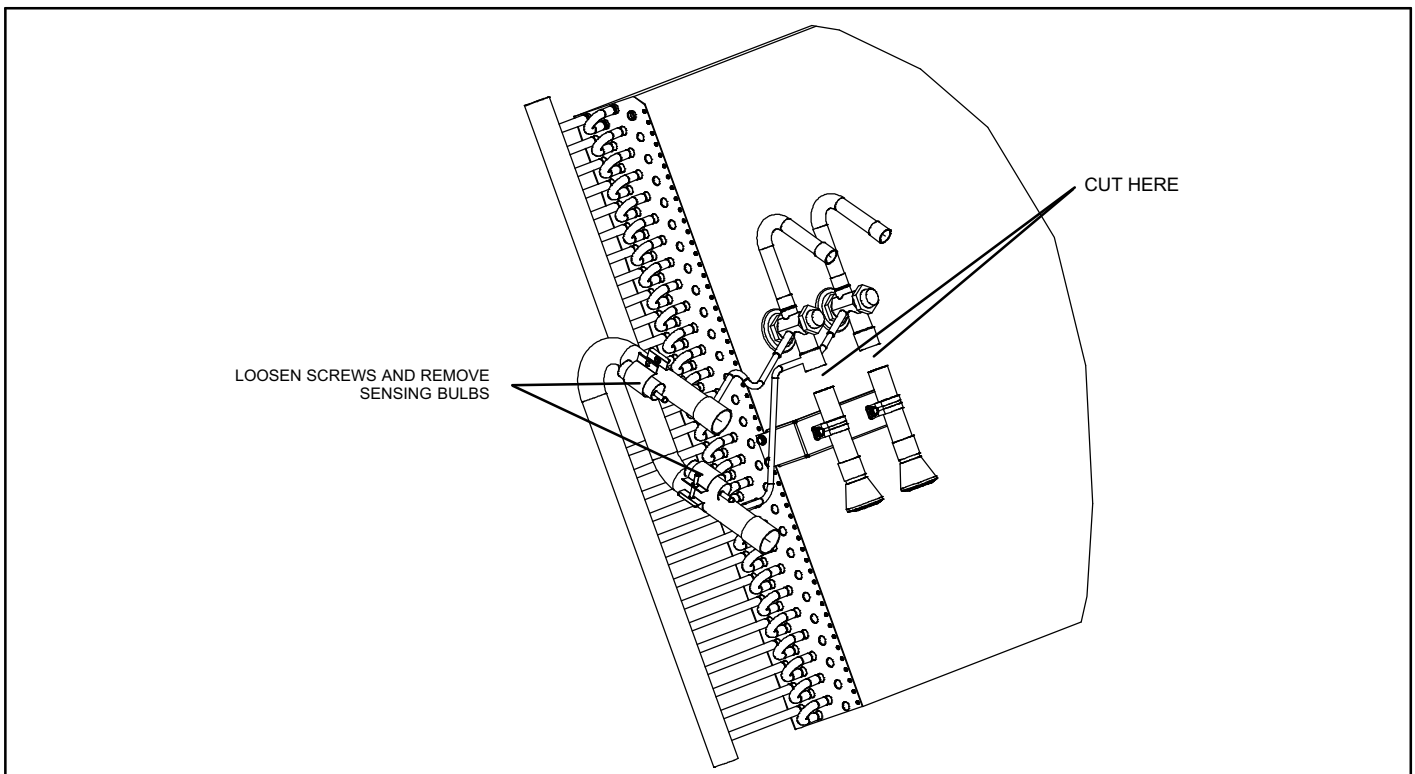

Figure 1. Remove TXVs
1. Loosen screw on clamp and remove sensing bulb from vapor line as illustrated in Figure 1.
2. Cut liquid line and extension tube between TXV and distributor as illustrated in Figure 1.